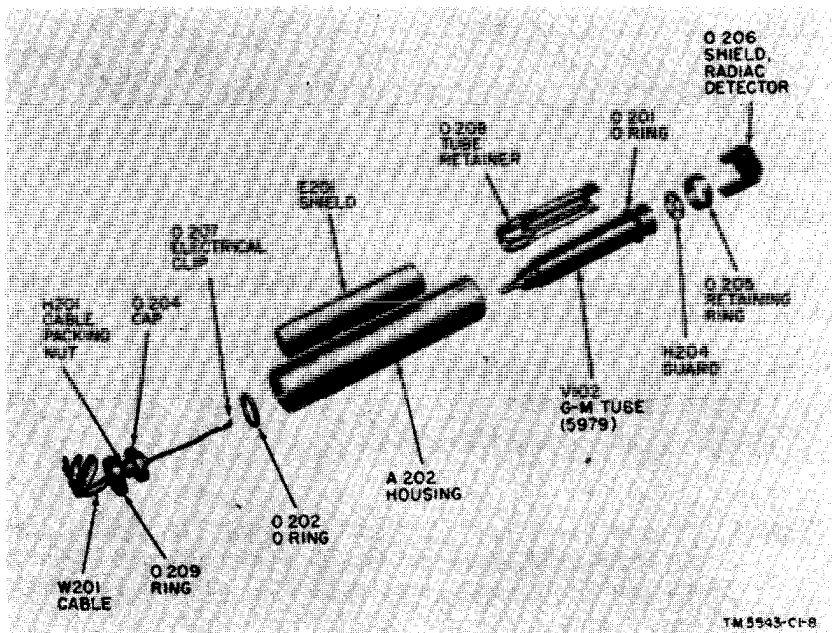

Figure 7-6.1. (Added) Radiac Detector DT-53D/PDR-27, exploded view.
Step 6. Unscrew the plug * * * the "0" ring. **In Radiac Set AN/PDR-27E, unscrew the threaded ring (0 209) at the end of the probe, and then remove the cap (0 204) (fig. 7-6.1).**